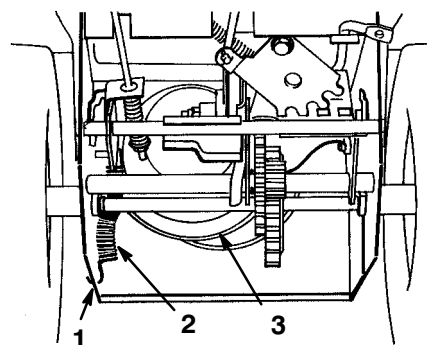

Figure 24
8. Disconnect the spring from the notch in the bottom edge of the side plate (Fig. 24).
14. Hook the spring into the notch in the bottom edge of the side plate (Fig. 24).